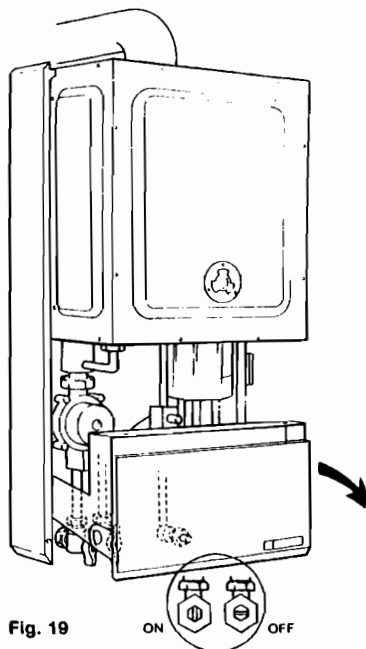

Fig. 19
- 5.7.2** To gain access to the electrical terminals hinge down the spring loaded control fascia. (ref to fig. 19) until it rests in an approximately horizontal position.